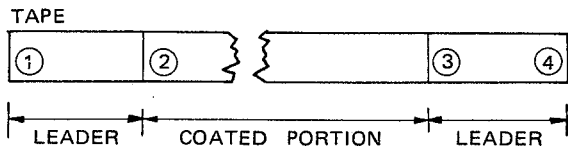

Fig. 1-16.
(7). Shut-off operation (Figs. 1-16, 17, 18)